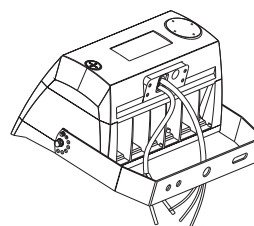

Figure 6
Step 2: Install two small screws. (Figure 6)